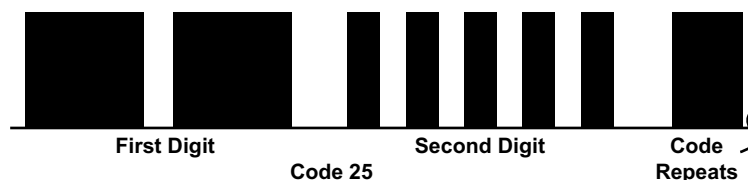

Figure 8-11 Honda engine Code Type 03
- Type 03, see Figure 8-11 and Table 8-4 on page 59